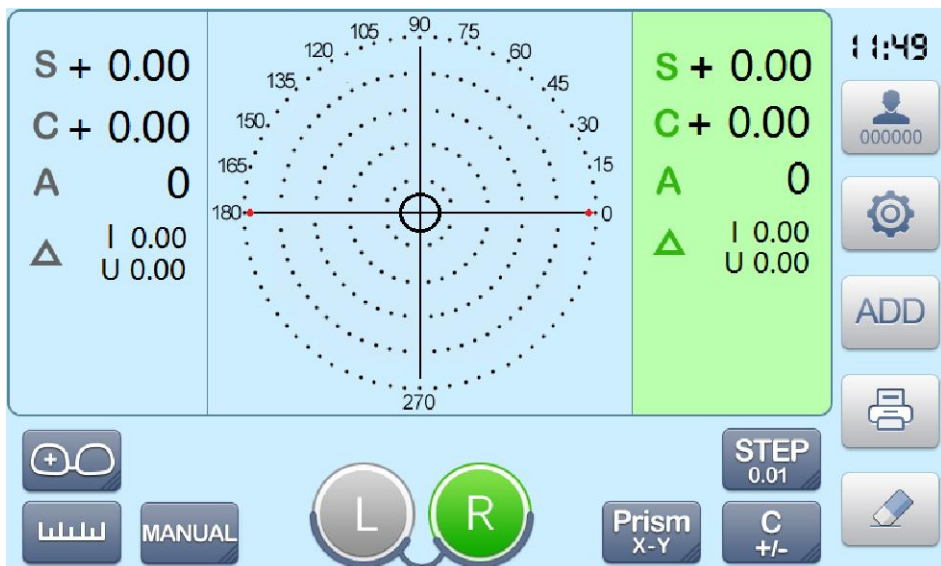

Figure 6.2 Measurement interface
4.1.3 Measurement interface as showing in figure 6.2 will appear after initialization complete(about 6 seconds). Measurement interface mode can be set in “measurement mode” item in measurement parameters menu.